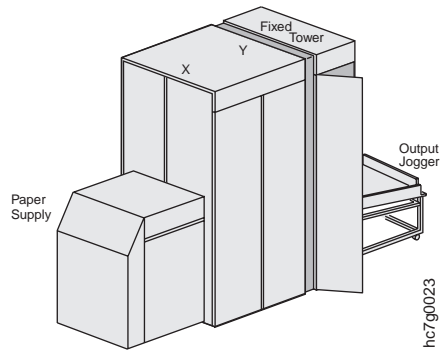

Figure 272. Right Side View of the InfoPrint Color 100
2. Open the fixed tower door on the right side of the machine, as shown in Figure 272 on page 299.